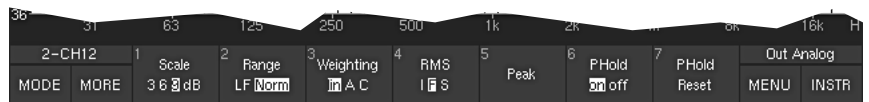

Fig. 5-27: Second Toolbar function layer of the RTA instruments (displayed after selecting MORE) in 2-Channel Stereo mode
(Second layer, button/key 1, see Fig. 5-27)
(Second layer, button/key 2, see Fig. 5-27)
(Second layer, button/key 3, see Fig. 5-27)
(Second layer, button/key 4, see Fig. 5-27)
(Second layer, button/key 5, see Fig. 5-27)
(Second layer, button/key 6, see Fig. 5-27)
(Second layer, button/key 7, see Fig. 5-27)